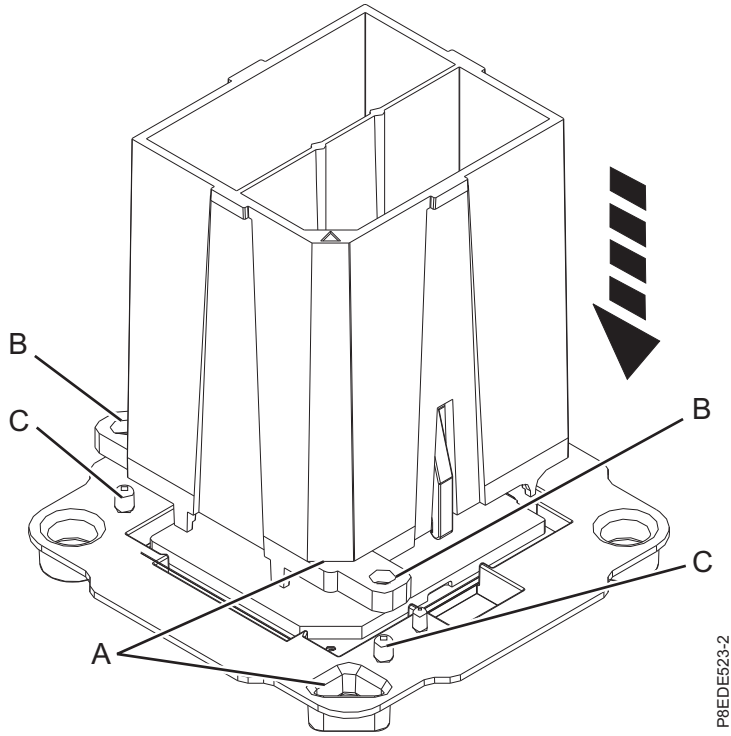
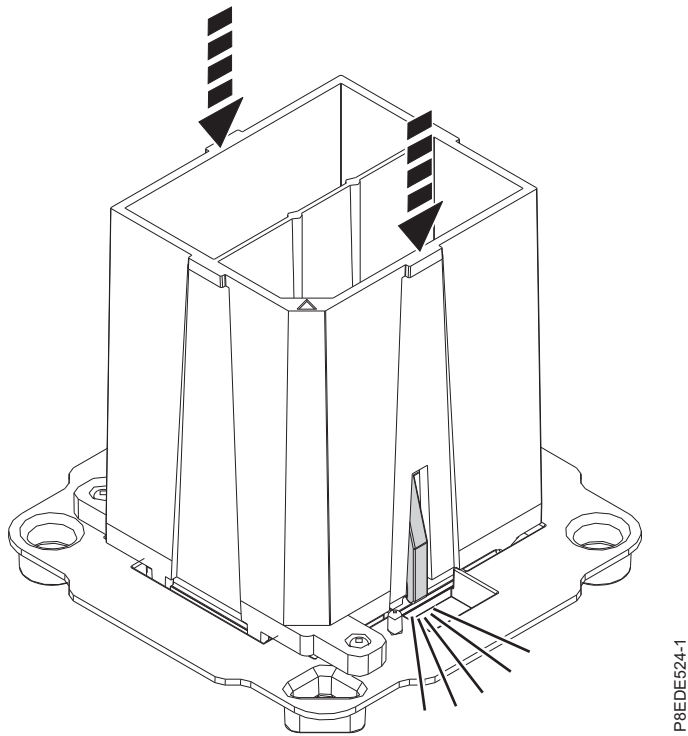

Figure 33. Preparing for system processor module installation
Figure 34. Locking the system processor module into the tool
- a. Remove the replacement processor module from the shipping tray. Using the supplied removal tool, align the beveled corner (A) of the tool over the beveled corner of the module, as shown in Figure 33 on page 34.
- b. Lower the tool over the system processor module by ensuring that the two guide pins (C) are inserted into the alignment holes (B) on each side of the tool, as shown in Figure 33 on page 34. Then, push down on the tool to lock the system processor module into the tool, as shown in Figure 34 on page 34. Do not press the blue release tabs until directed to do so later.